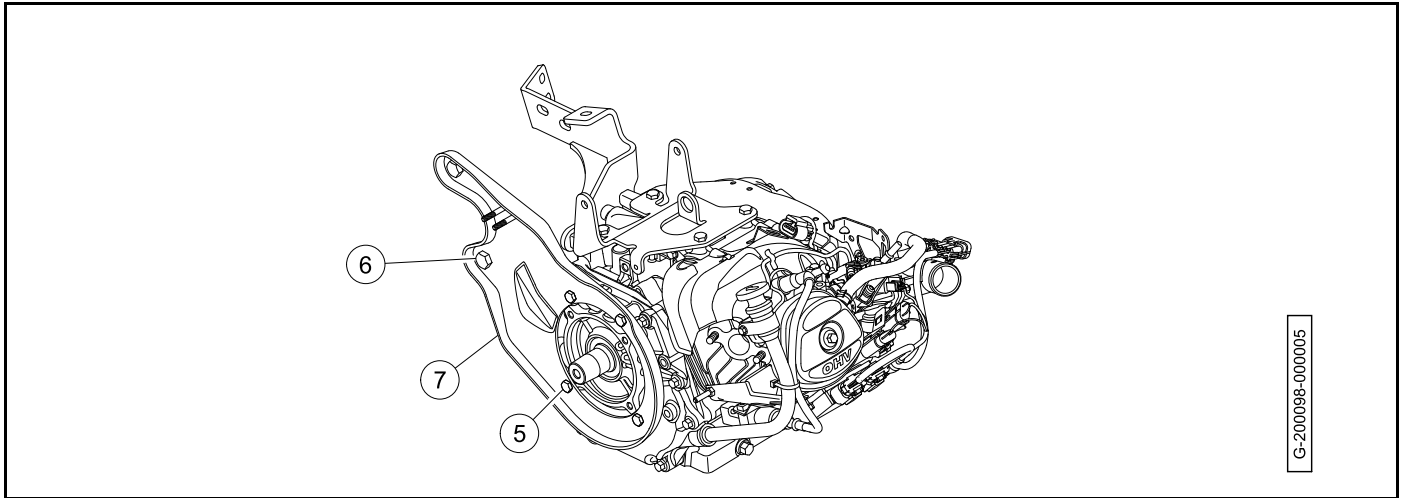

Figure 20-2 Clutch Plate Removal
7. Remove the governor cover (2).
8. Loosen the clamp and disconnect the vent line (3).
12. Disconnect the ground cable from the engine (4).
16. Remove the bolts (5 and 6) (Figure 20-2, Page 20-3).